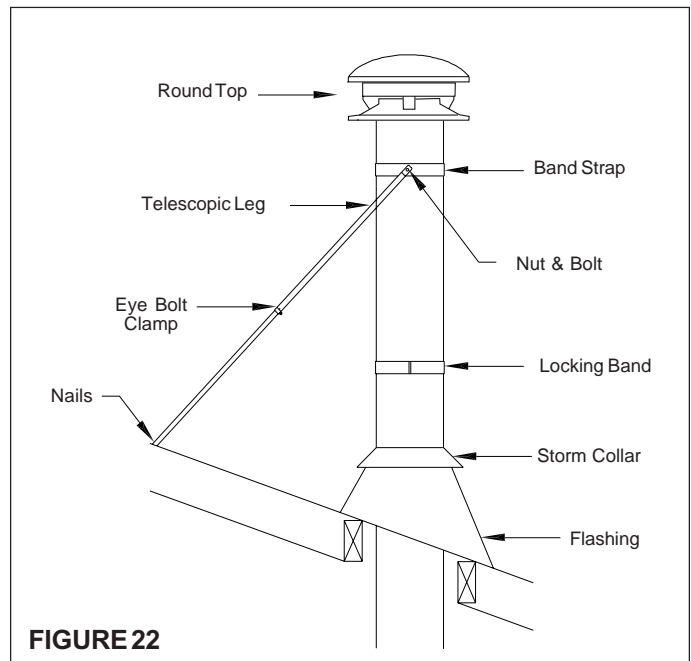

FIGURE 22
11. Finish the chimney to its required height. If the chimney extends 1.5 m (5') or more above the roof, a Universal Roof Brace Kit is required (see Figure 22).